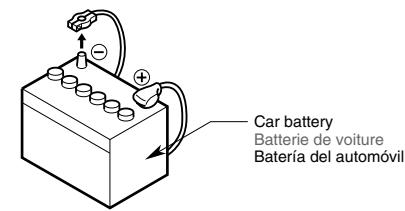

Figure 1 / Figure 1 / Figura 1
- Be sure to disconnect the battery "(-)" terminal before starting. This is to prevent short circuits during installation. (Figure 1)
- S'assurer de débrancher la borne "(-)" de la batterie avant de commencer. Cela évitera les court-circuits pendant l'installation. (Figure 1)